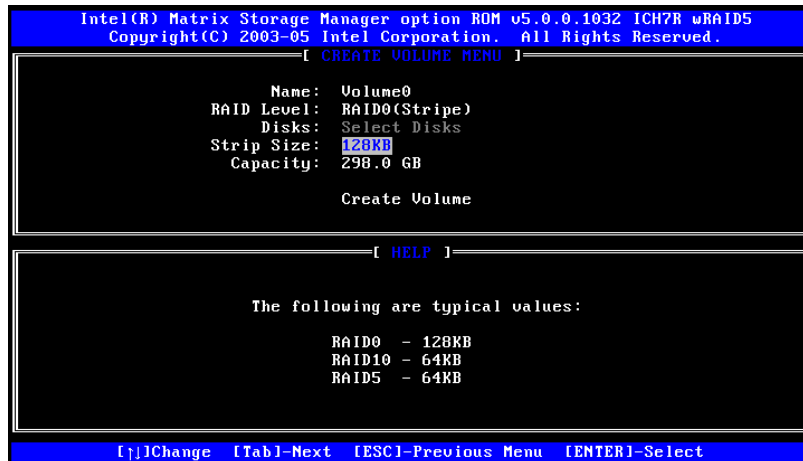

Figure A-4: Select the Stripe Size
Step 4: Select the Stripe Size. Select a stripe size from the list. See Figure A-4.